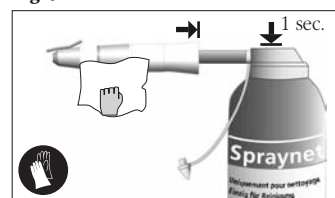

fig. 6
- Spray the interior and exterior of the instrument (fig. 6) to remove residue and clean all surfaces carefully.
Spray the exterior and interior of the instrument with **Spraynet** product (fig. 6) immediately to remove all traces of detergent and rinsing water to prevent any adverse impact on the internal components, e.g. which might cause them to seize.